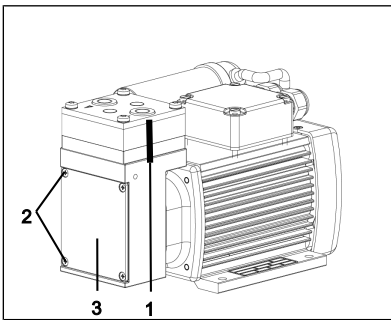

Fig. 4 Marking with felt-tip pen
1. Mark the pressure plate, head plate, intermediate plate and housing with a felt-tip pen (Fig. 4/1) to ensure proper mounting.
2. Remove the housing cover (Fig. 4/3).
3. Loosen the four fastening screws (Fig. 4/2) and remove the housing cover (Fig. 4/3).